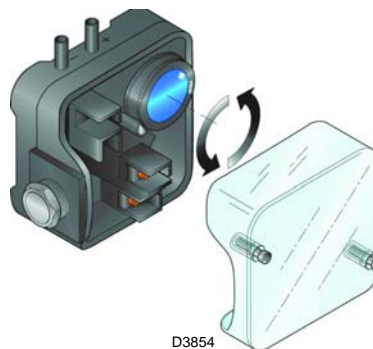

Fig. 26
- Adjust the air pressure switch (Fig. 26) to the start of the scale.
Adjust the air pressure switch after having performed all other burner adjustments with the air pressure switch set to the start of the scale (Fig. 26).